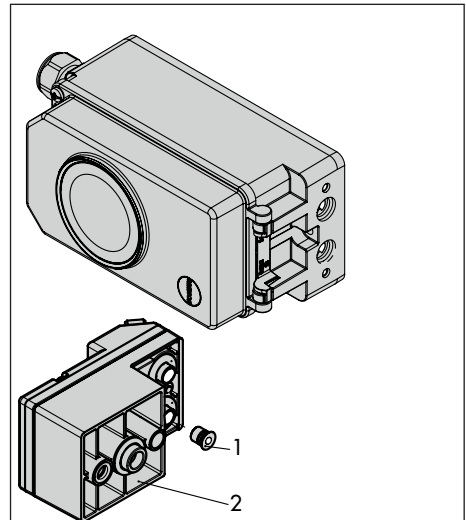

Fig. 5-6: Installing the volume restriction (1) in the connection block (2)
**Volume restriction in the connection block (direct attachment).** See Fig. 5-6.